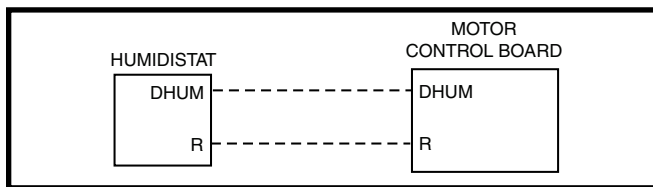

Figure 6. DHUM Wiring Configuration
1. If the room thermostat incorporates a humidity sensor and **DHUM** output, connect the **DHUM** on the thermostat to the **D** terminal on the motor control board. See Figure 6 \(page 11\).